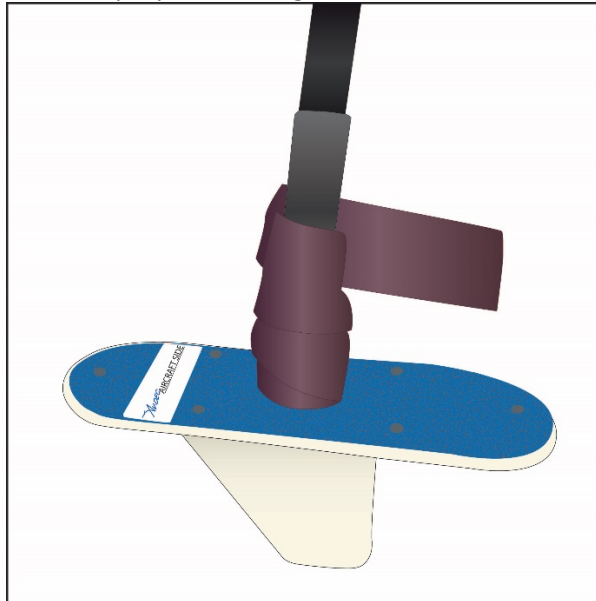

Figure 3
- 2) Wrap the StretchSeal® PRS® clockwise around the mated connector with a 50% overlap while stretching the PRS® 25% to 50% to ensure a tight wrap. A tight wrap is necessary to ensure a proper seal. *(Figure 3)*